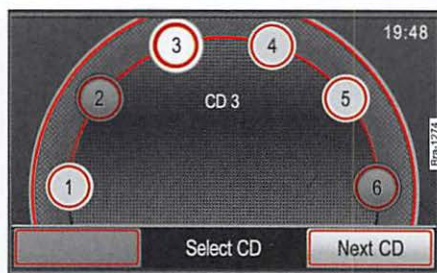

Fig. 40 CD selection menu.
CD slots with readable CDs are represented by active function buttons, i.e., ①, ③, ④ and ⑤ $\Rightarrow$ fig. 40. The currently played CD slot ③ is highlighted.
Empty CD slots or CD slots with unreadable CDs are indicated as inactive (i.e., ② and ⑥ $\Rightarrow$ fig. 40).